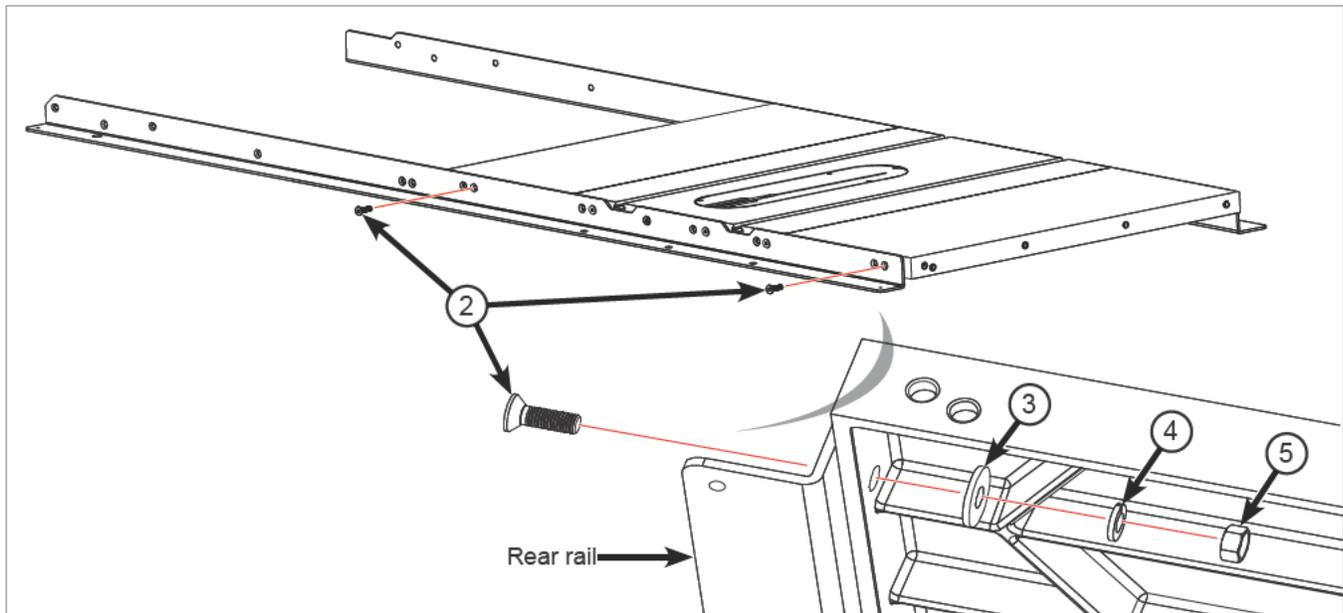

Fig. 7
- Finish mounting the rear rail to your saw by inserting an M8 x 25 countersunk socket head bolt (2) through the open hole at the end of each extension wing, and placing an M8 washer (3), an M8 lock washer (4), and an M8 hex nut (5) on the threaded end of each bolt (See Fig. 7). Hand tighten the nuts; do not fully tighten them.